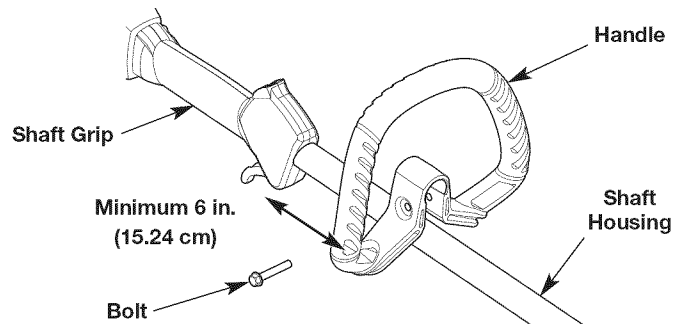

Fig. 2
1. Loosen the bolt (Fig. 2).
2. While holding the unit in the operating position (Fig. 10), move the handle to the location that provides the best grip. Place it a minimum of 6 inches (15.24 cm) from the end of the shaft grip (Fig. 2).